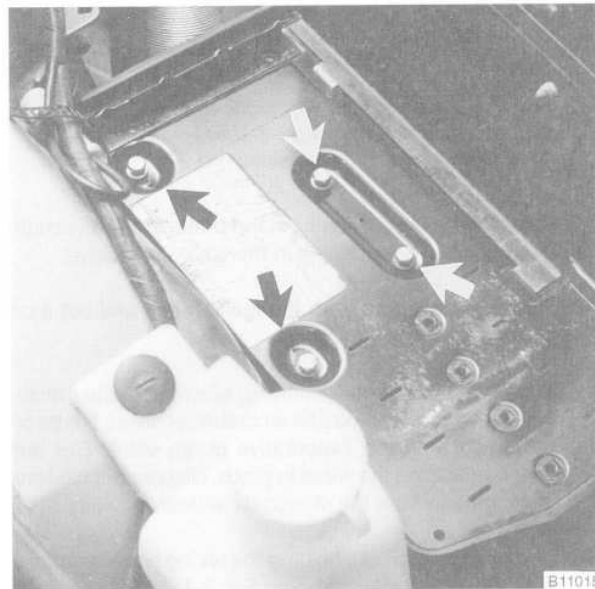

Fig. 9. Battery tray mounting bolts (arrows).
3. On cars with the battery in the engine compartment, remove the battery from the car. Remove the battery tray mounting bolts and remove the tray. See Fig. 9.